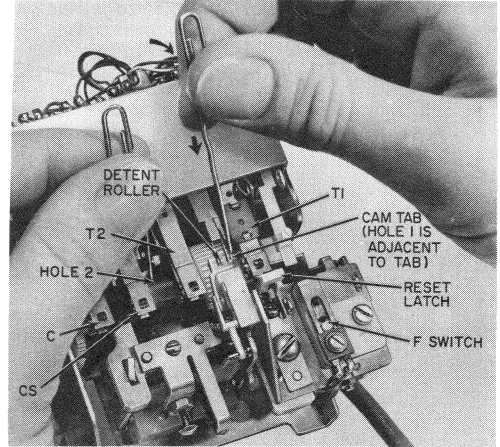
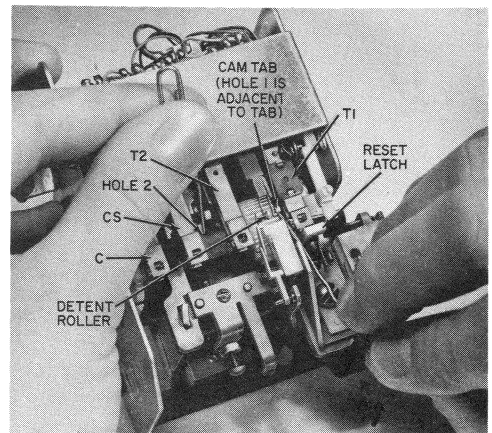

Fig. 15—Increasing Totalizer Rate (Typical)
Fig. 16—Decreasing Totalizer Rate (Typical)
**Increasing Rate (Fig. 15).**
- (2) Further rotate shaft approximately 10 steps until a tab on the T1 cam is accessible as shown in Fig. 15 and 16.
- (3) Insert a paper clip into one of the four holes indicated as hole 2 in center of shaft. Hold paper clip firmly so that shaft cannot move.
- (4) Position a second paper clip into the hole on T1 cam indicated as hole 1 and rotate cam in direction of the curved arrow as shown.
**If hole 1 in T1 cam has been mutilated or clogged preventing use, place paper clip against tab as shown in Fig. 15 and push tab in direction of the straight arrow.**
- (5) One step of rotation of the T1 cam in this direction increases the rate by 5 cents.
- (6) Check new initial rate setting per paragraph 3.14.
**Decreasing Rate (Fig. 16)**
- (7) Repeat steps (1) through (3).
- (8) Position a second paper clip into the hole on T1 cam indicated as hole 1 (Fig. 16) and rotate cam in direction of the curved arrow as shown.
*If hole 1 in T1 cam has been mutilated or clogged preventing use, place paper clip against tab as shown in Fig. 16 and push tab in direction of the straight arrow.*
- (9) One step of rotation of the T1 cam in this direction decreases the rate by 5 cents.
- (10) Check new initial rate setting as described in paragraph 3.14.